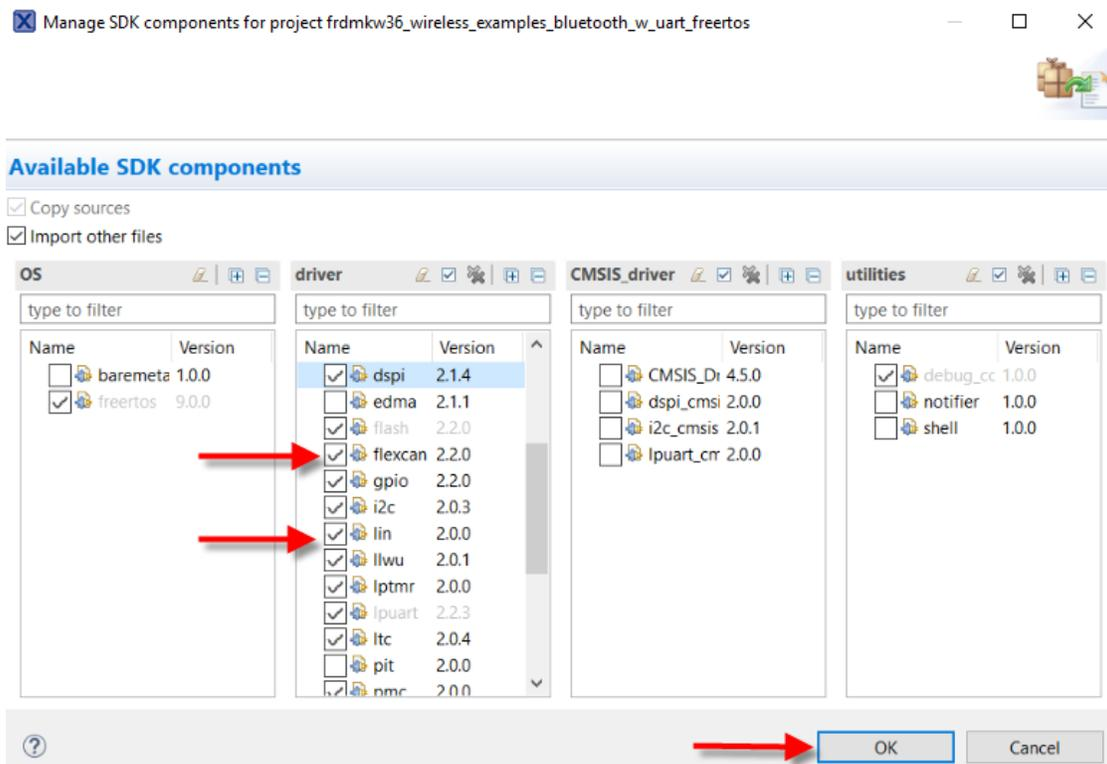

Figure 10. Driver window
2. Select “flexcan” and “lin” from driver window and click “OK”. See Figure 10.